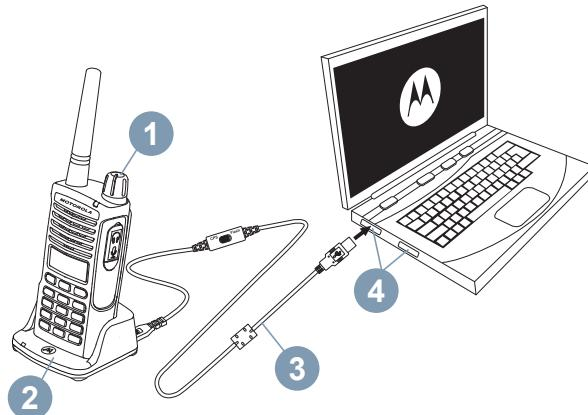

Figure 1: Setting up the radio using CPS
To program, connect XT600d Series radio (1) using the Drop-in Tray SUC (2) and the CPS Programming Cable (3*) to CPS in the computer (4) as shown in Figure 1: Setting up the radio using CPS on page 59.